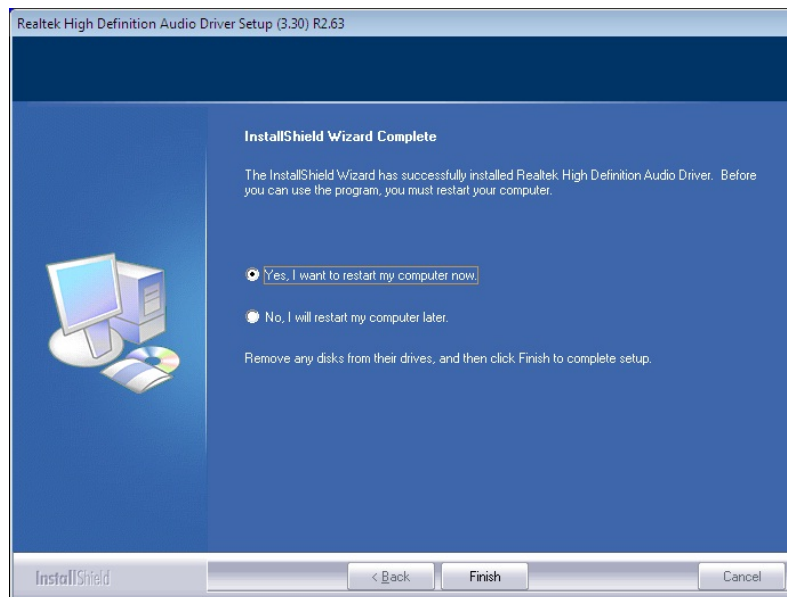

Figure 6-20: Audio Driver Installation Complete
Step 10: When the driver installation is complete, the screen in **Figure 6-20** appears.